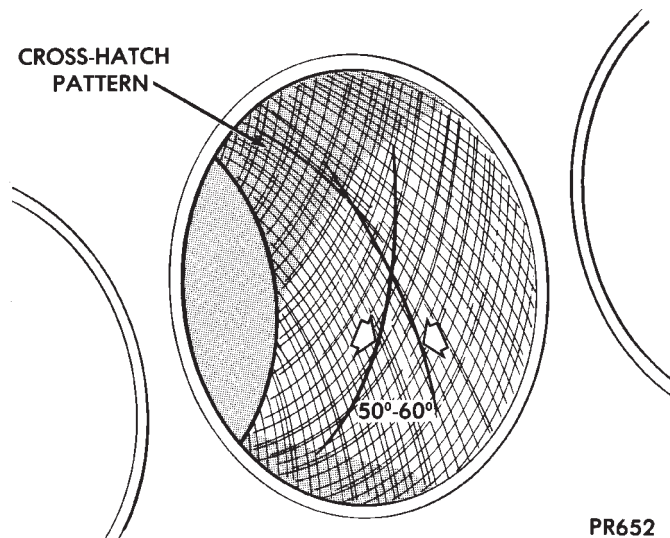

Fig. 1 Cylinder Bore Cross-Hatch Pattern
(2) Deglazing of the cylinder walls may be done using a cylinder surfacing hone, Tool C-3501, equipped with 280 grit stones (C-3501-3810) if the cylinder bore is straight and round. 20-60 strokes depending on the bore condition will be sufficient to provide a satisfactory surface. Inspect cylinder walls after each 20 strokes. Using a light honing oil available from major oil distributors. **Do not use engine or transmission oil, mineral spirits or kerosene.**
(3) Honing should be done by moving the hone up and down fast enough to get a cross-hatch pattern. When hone marks **intersect** at 50-60 degrees, the cross hatch angle is most satisfactory for proper seating of rings (Fig. 1).